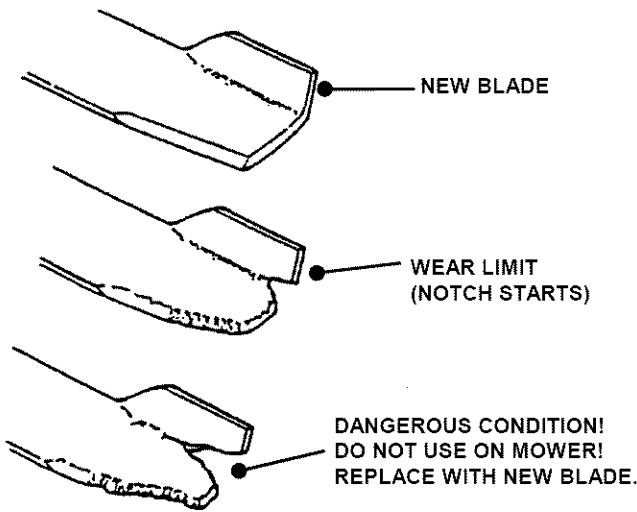

FIGURE 7.4
Check blades after each use for signs of excessive wear and damage. See Figure 7.4 for blade wear limits.
3. Clean and inspect each Blade for excessive wear and damage. See Figure 7.4.